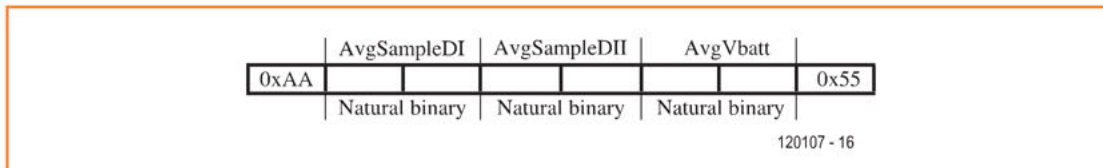

Figure 6. UART data sequence format.
**Figure 6** shows the format adopted for this 8-byte sequence. The data are framed by the bytes 0xAA and 0x55. These will be used in the Android terminal to perform sequence synchronization and hence to identify and read out the